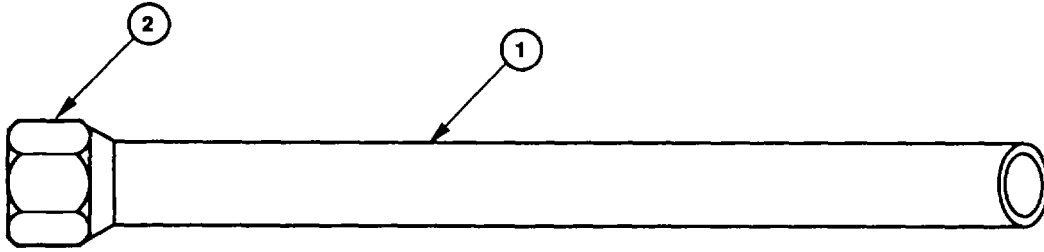

Figure F-17. TEV Outlet Tube Assembly.
- a. Cut tube (Figure F-17, 1) to length using old tube as a template.
- b. Install flarenut (2) on tube (1) and flare nut end of tube (1) 450°.